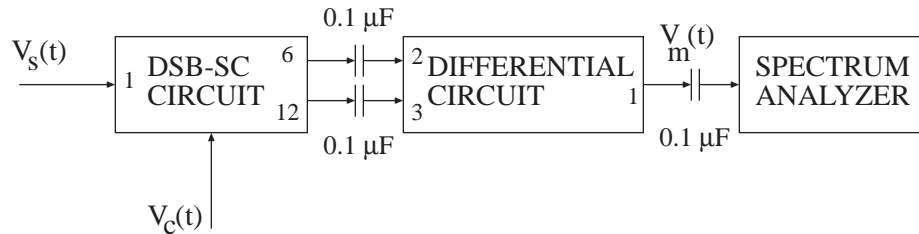

Figure 1: DSB-SC modulator using the MC1496.
Figure 5 of the MC1496 data sheet shows a typical circuit for implementing a DSB-SC modulator. Note that this chip provides a balanced output where the modulated signal $s(t)$ is the difference between $+V_0$ and $-V_0$. Thus, a difference circuit based on the LF353 must be used to generate a single output V_0 with respect to ground. A block diagram of the overall DSB-SC modulator using the ICs is shown in Figure 1.
- (a) Using the function generator to generate the sinusoidal waveforms, implement the circuit in Figure 1. Verify that the circuit works properly by observing and recording $V_s(t)$, $V_c(t)$, and $V_m(t)$. It is recommended that $V_s(t)$ be used as the trigger voltage to view $V_m(t)$.